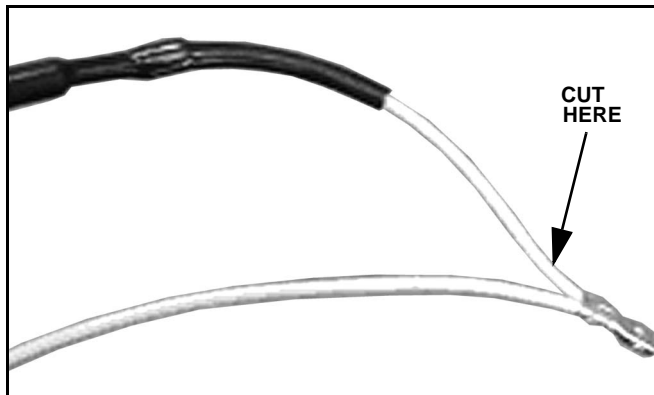

Figure 4
5. Remove yellow wire containing diodes from adapter by cutting wire just behind the terminal crimp (See Figure 4.). The idea is to eliminate the diode kit from the adapter harness.